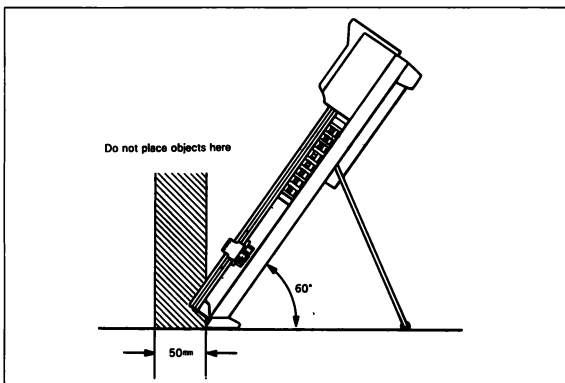

Fig. 2-6
- 3) Keep the shaded area in Fig.2-6 free from object to ensure that the arm is able to move freely.